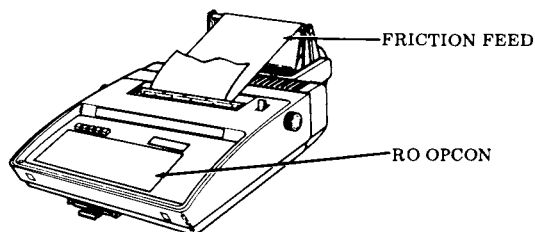

Fig 2.—RO Friction Feed
2.03 Various 43 terminal arrangements are also available without a directly connected telephone with either friction or sprocket feed paper handling as follows (See Fig. 2).
•Receive Only (RO) terminals with either an internal data set, TAU, TAU1, or no internal data unit.